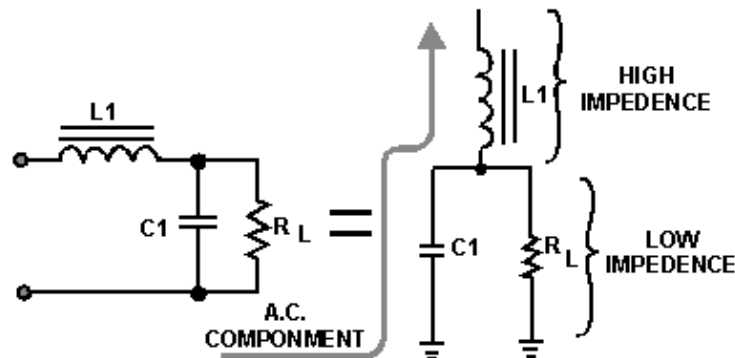

Figure 3-30.—LC choke-input filter (as voltage divider).
The series inductor (L1) and the capacitor (C1) form a voltage divider for the ac component (ripple) of the applied input voltage. This is shown in figure 3-30. As far as the ripple component is concerned, the inductor offers a high impedance (Z) and the capacitor offers a low impedance. As a result, the ripple component (Er) appearing across the load resistance is greatly attenuated (reduced). Since the inductance of the filter choke opposes changes in the value of the current flowing through it, the average value of the voltage produced across the capacitor contains a much smaller value of ripple component (Er), as compared with the value of ripple produced across the coil.